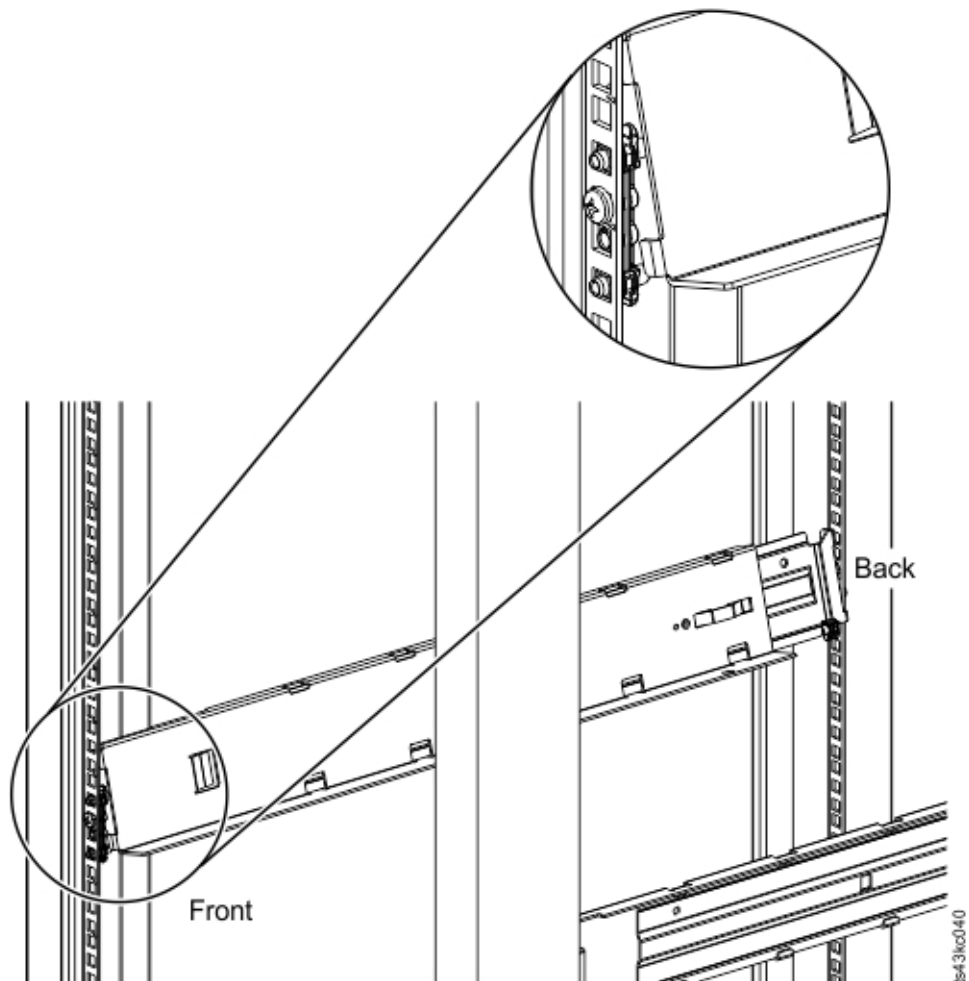

Figure 32. Mounting the rails to the connectors
- d. Mount the LH Rackmount rail to the connectors. See Figure 32 on page 48.